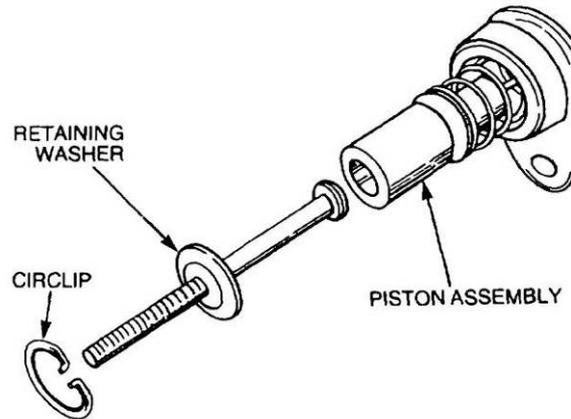

Figure 158 Installation of the Piston Assembly
- j. Install the push rod, retaining washer and circlip (Figure 158).